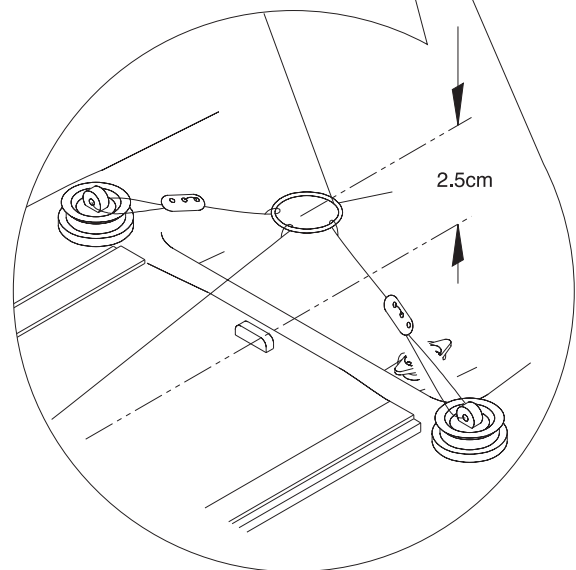

Fig. 32
5. Adjust the rigging line tension so the silver sail control ring is set as shown in Fig. 32.